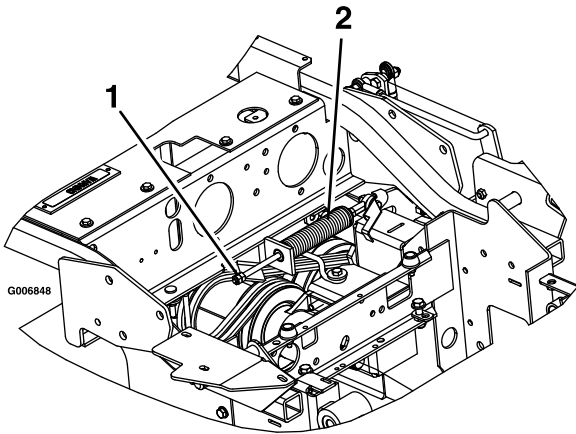

Figure 58
3. Locate the brake spring and thread the two jam nuts out to the end of the brake spring rod (Figure 58).